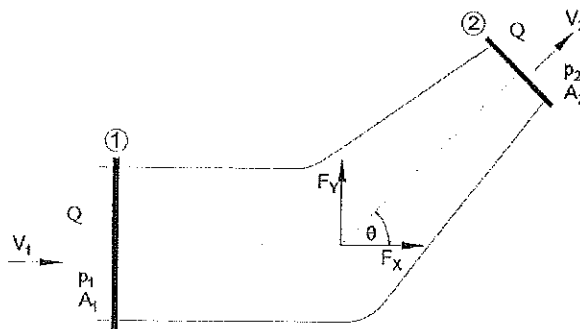

Figure Q1
- (a). Figure Q1 shows a fluid flowing pipe bend that lies in a ground. Show that the net forces  $F_x$  and  $F_y$  in the directions of x and y respectively, are given by:
- (b). A  $45^\circ$  reducing bend is used to connect a pipe line in the horizontal plane as shown in figure Q1, the diameters at the inlet and the outlet of the bend being 600mm and 300mm respectively. Find the magnitude and the direction of the resultant force exerted by water on the bend if the intensity of pressure at the inlet is  $9\text{N/cm}^2$  and rate of flow of water is 600 litres/sec.